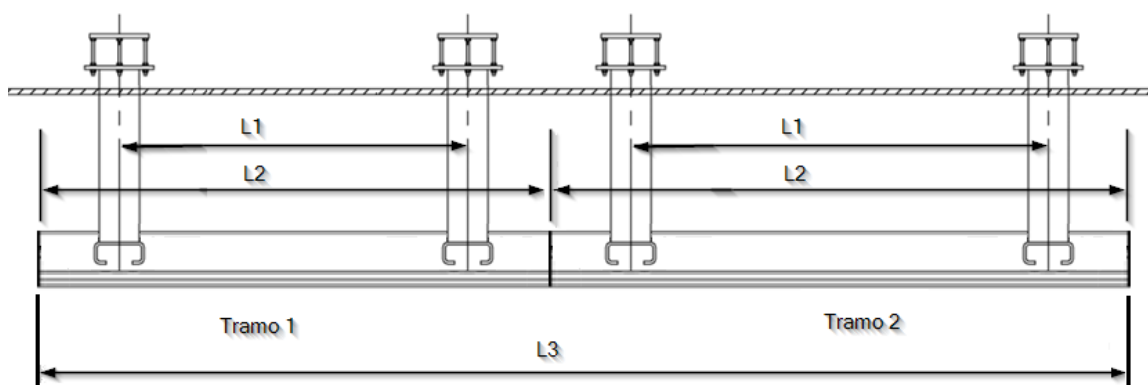

Fig. 5 Parts. Joining of two suspended headboard sections
A movable element that moves along a defined length within a section of TOR with two 38mm diameter structural tubes on which other accessory elements can be supported. The distance between the tubes (L) can be 300mm, 500mm and 700mm. Figure 5 illustrates the 300mm and the 700mm variant.